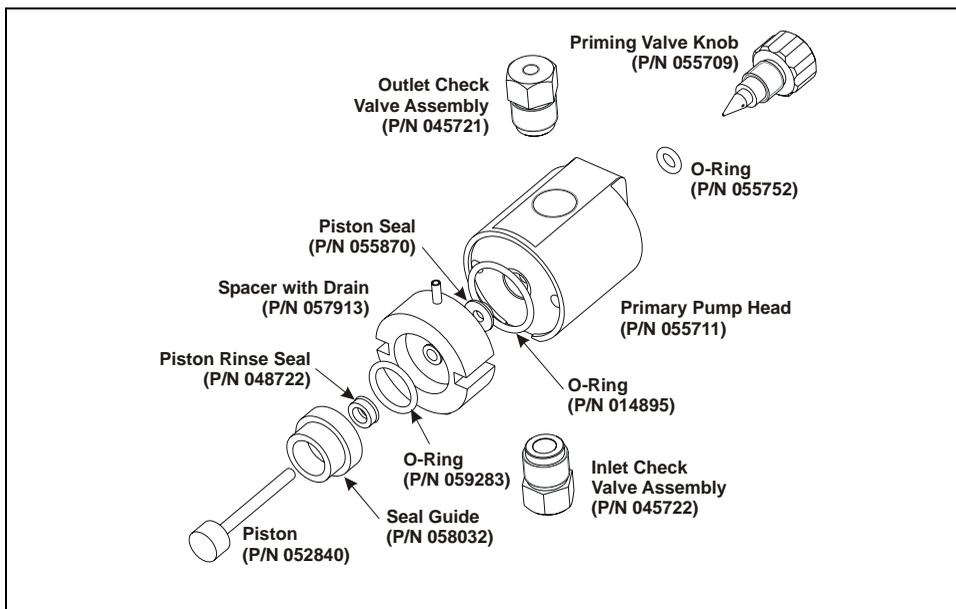

Figure 5-10. Primary Pump Head
5. Place the head (front end down) on a clean work surface and lift off the spacer to expose the piston seal (see Figure 5-10 or Figure 5-11).